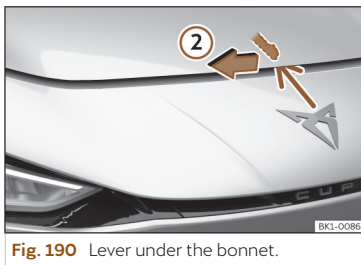

Fig. 190 Lever under the bonnet.
- To lift the bonnet, press towards the left on the lever located under the bonnet, in the centre >>> **Fig. 190** ②. The fastening hooks are unlocked.